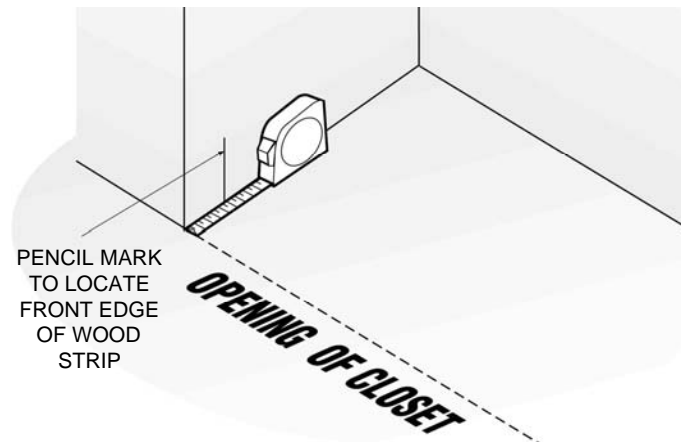

Figure 2
- Find the correct offset measurement using the **Offset Measuring Table** on Page 3 (**B Measurement**) for your particular installation. From the front edge of closet opening inward, measure using dimension from table and make a pencil mark on wall. Do this on both walls, i.e., right and left walls (See Figure 2).